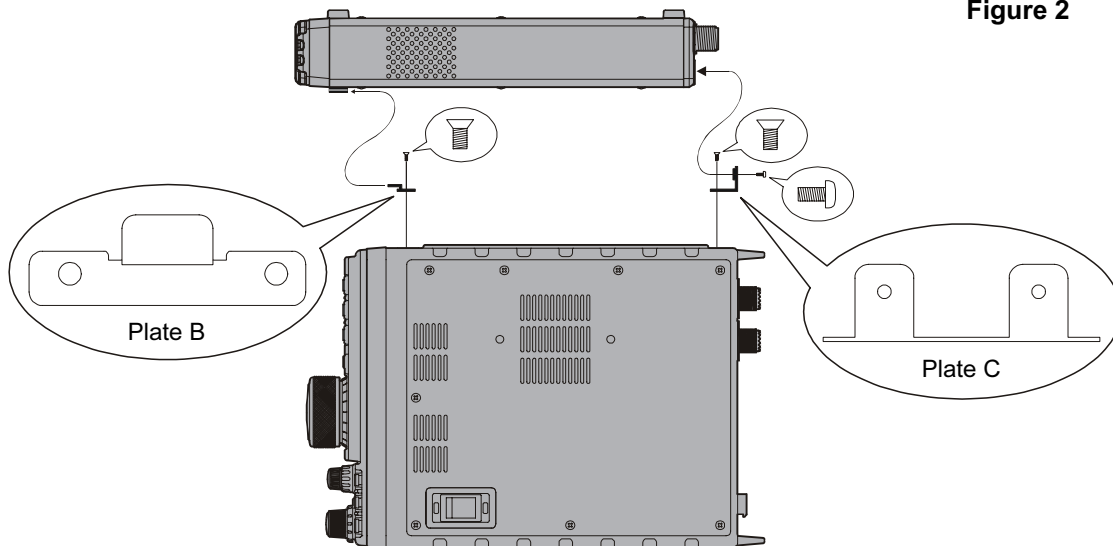

Figure 3
3. Remove the four rubber lugs and their four screws (**Figure 2**), then position mounting plates “B” and “C” so that their holes align with those on the FT-897D, and secure using the supplied screws (**Figure 3**).
4. To install the FC-30, position the FC-30 so that the mounting plate “A” on the side fits into the mounting plate “B” on the FT-897D (**Figure 3**), then screw the mounting plate “C” (on the FT-897D) to the FC-30 using the supplied screws (**Figure 1**).